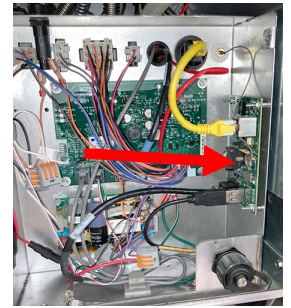

Figure 8
16. The KCCM board is located on the right side of the FIB box (see Figure 8).